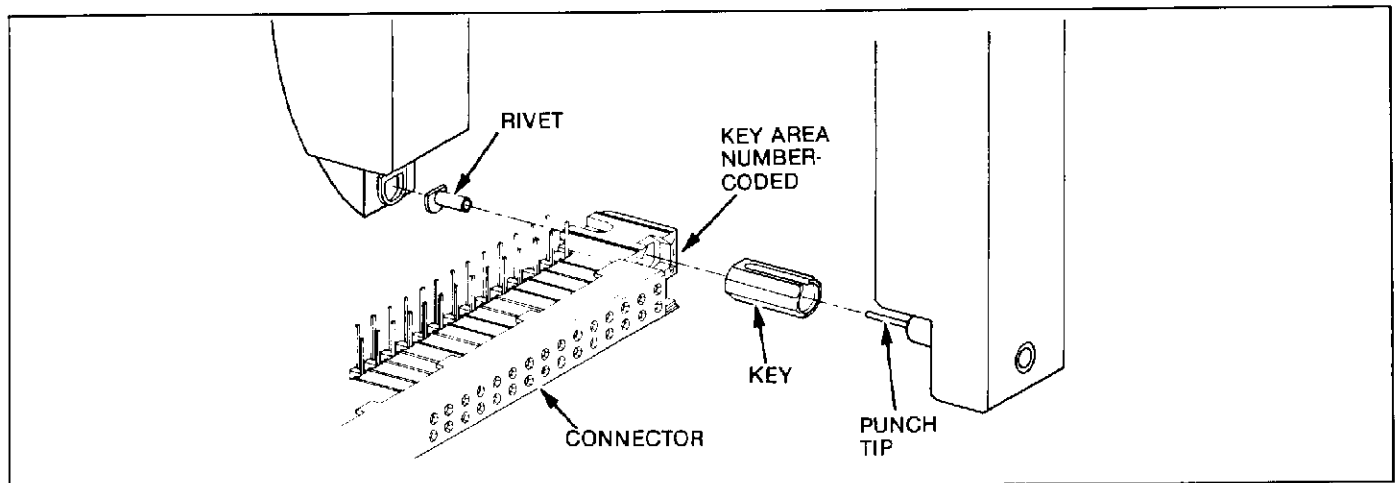

Fig. 2
3. CLINCHING PROCEDURE (Figure 2)